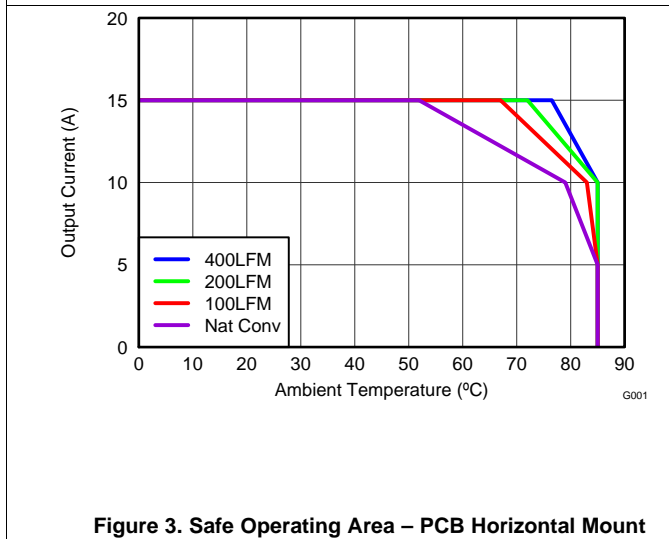
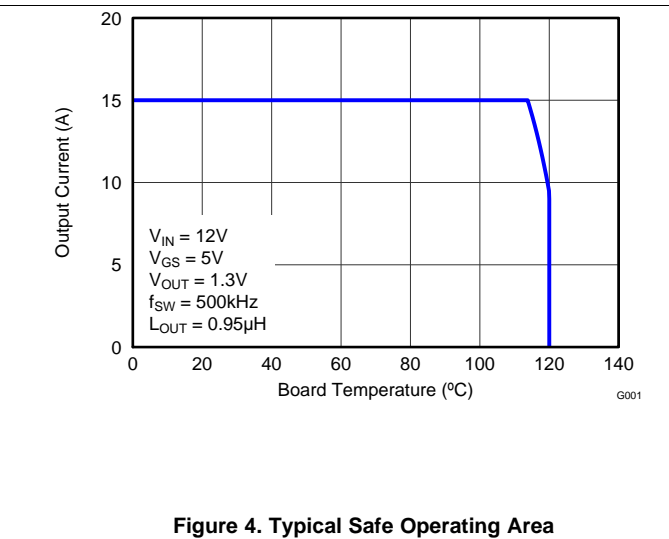

Figure 3. Safe Operating Area – PCB Horizontal Mount
Figure 4. Typical Safe Operating Area
$T_J = 125^{\circ}\text{C}$, unless stated otherwise. For Figure 3 and Figure 4, the Typical Power Block System Characteristic curves are based on measurements made on a PCB design with dimensions of 4-inches (W) × 3.5-inches (L) × 0.062-inch (H) and 6 copper layers of 1-oz. copper thickness. See Application and Implementation for detailed explanation.
$T_J = 125^\circ\text{C}$, unless stated otherwise. For Figure 3 and Figure 4, the Typical Power Block System Characteristic curves are based on measurements made on a PCB design with dimensions of 4-inches (W) x 3.5-inches (L) x 0.062-inch (H) and 6 copper layers of 1-oz. copper thickness. See Application and Implementation for detailed explanation.
The SOA curves in the CSD87381P data sheet provides guidance on the temperature boundaries within an operating system by incorporating the thermal resistance and system power loss. Figure 3 to Figure 4 outline the temperature and airflow conditions required for a given load current. The area under the curve dictates the safe operating area. All the curves are based on measurements made on a PCB design with dimensions of 4-inches (W) x 3.5-inches (L) x 0.062-inch (T) and 6 copper layers of 1-oz. copper thickness.